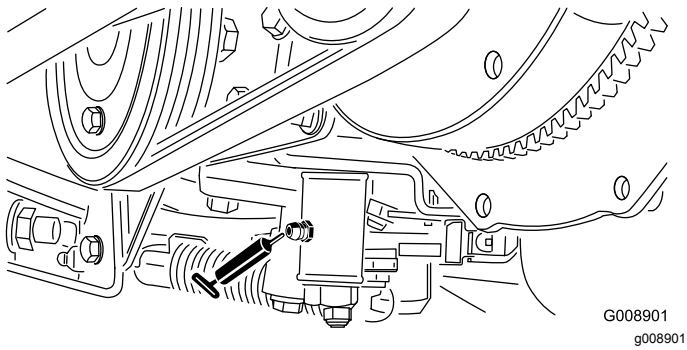

Figure 56
- Neutral adjust mechanism (Figure 56)